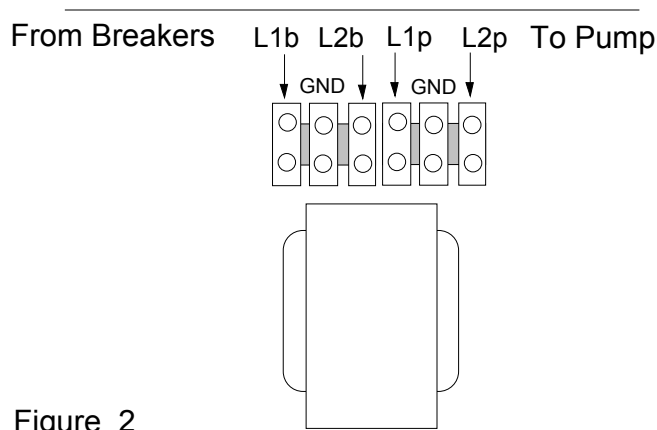

Figure 2
- b) While facing the 952 switch panel, remove the top cover of the 952. Notice the 240 VAC connection blocks in the upper right hand corner. See fig. 2.